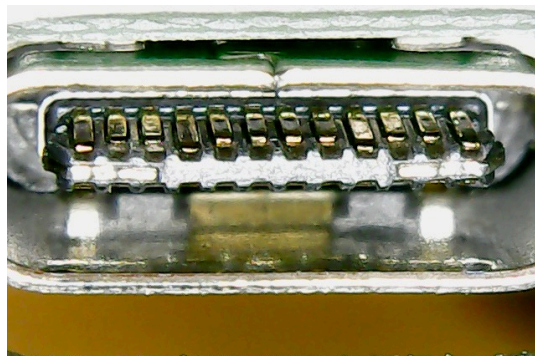
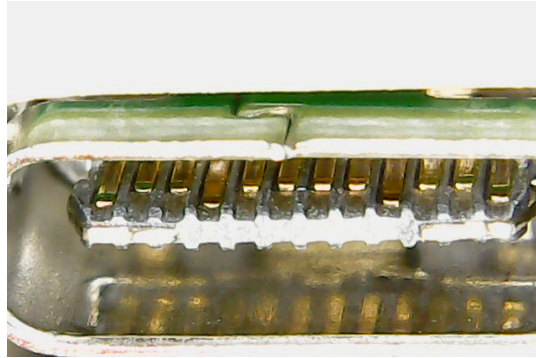

Figure 2: 9,000 insertions on a USB Type-C module
Figure 3: 9,000 insertions on a USB Type-C module after cleaning
In Figure 2, we see a module which has been used in 9,000 tests. This used unit has visible black deposits which could interfere with electrical conductivity between the gold on the receptacle finger and the cable under test. Non-conductive foreign matter on the receptacle conductors would act as insulators, resulting in higher DC resistance (“DCR”) measurements.
In Figure 3, we see the same module after cleaning in a solvent. The entire module was immersed in the solvent, and then subjected to 2 minutes of ultrasonic cleaning per receptacle. The black deposits were dissolved and are no longer visible resulting in visibly clean metal contacts.
In this experiment, the same cable was used to test the DCR of a new module, the used and uncleaned module shown in Figure 2, and the used and cleaned module shown in Figure 3.
- The deposits visible in Figure 2 **did not substantively** impact the resistance for the high DCR group (PLUG 1 B5, PLUG 2 B5, B5 through, CC, SBU A8, SBU B8).
- The deposits visible in Figure 2 **did substantively** impact the resistance for the low DCR group (GND Cable, GND Cable with shells, Shield Cable, GND - Plug 1 Pin A1, GND - Plug 1 Pin A12, GND - Plug 1 Pin B1, GND - Plug 1 Pin B12, GND - Plug 2 Pin A1, GND - Plug 2 Pin A12, GND - Plug 2 Pin B1, GND - Plug 2 Pin B12, GND - Plug 1 shell to GND, GND - Plug 2 shell to GND, VBUS Cable, VBUS - Plug 1 Pin A4, VBUS - Plug 1 Pin A9, VBUS - Plug 1 Pin B4, VBUS - Plug 1 Pin B9, VBUS - Plug 2 Pin A4, VBUS - Plug 2 Pin A9, VBUS - Plug 2 Pin B4, VBUS - Plug 2 Pin B9).